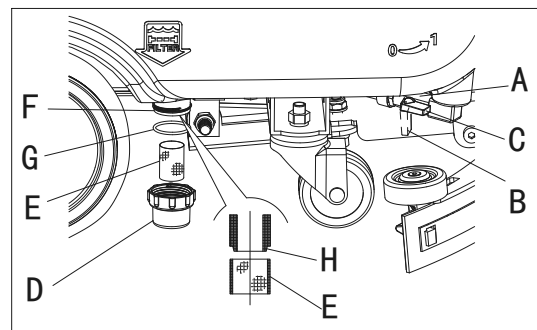

Figure 18
2. Ensure that the machine is off and the ignition key (54) has been removed.
3. Close the solution tap (A, Figure. 18) under the machine, behind the right rear wheel. The tap (A) is closed when it is on the position (B) and it is open when it is on the position (C).
4. Remove the transparent cover (D), then remove the filter strainer (E). Clean and install them on the support (F).